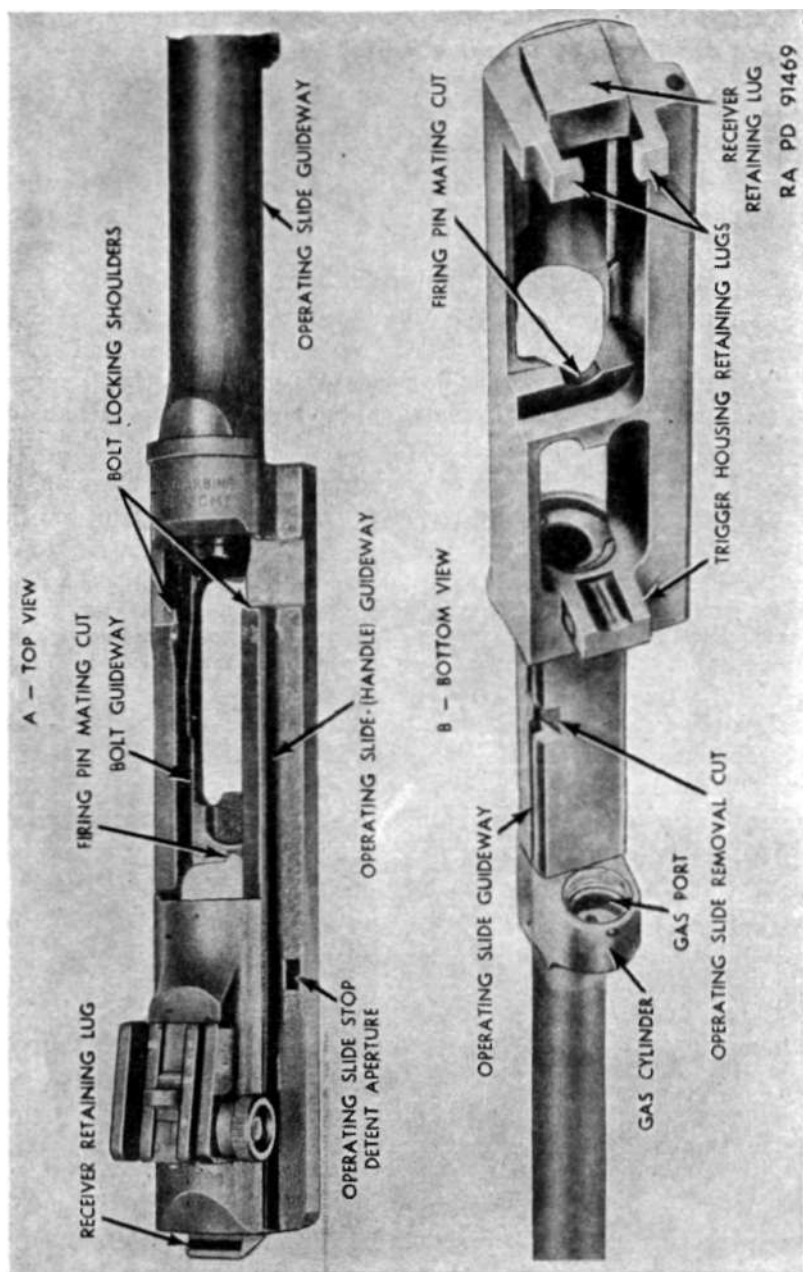

Figure 50. Barrel and receiver group.
*d. RECEIVER.* (1) Inspect receiver for looseness with barrel, deformation, rust, and burs. If receiver is disassembled from barrel, inspect for worn or crossed threads in barrel aperture.
(2) Inspect bolt guideway and locking shoulders for wear, burs, cracks, and foreign matter. Inspect receiver retaining lug on rear end (fig. 50) for wear, burs, and looseness with recoil plate when assembled to stock.
(3) Inspect operating slide guideway on right side for wear, burs, and foreign matter, and operating slide removal cut for wear and burs. Inspect operating slide stop detent aperture for wear, burs, and foreign matter. Forward surface of aperture should be at a sharp right angle to receiver, and with a clean edge to facilitate retention of stop, and